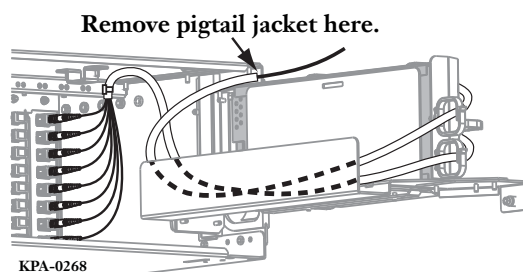
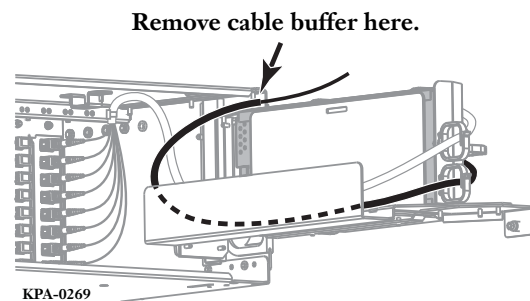

Figure 7 — Mark Pigtail Jacket
Figure 9 — Mark Buffer Tube
- Step 5:** Route the pigtail to the end of the tray near the hinge on the shelf (Figure 7).
- Step 1:** Strip pigtail jacket and buffer tube at the mark made previously in Figure 7 and Figure 9.